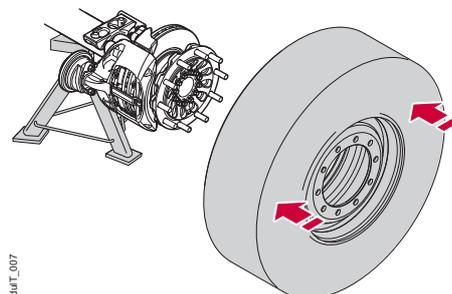

Figure 11. Mount the wheel
- Mount the wheel, see Figure 11.